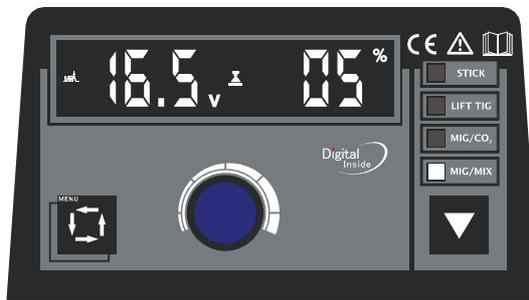

Fig. 5 Fine adjustment of preset range of voltage under MIG mode
- c) Press the **【Menu button】** for the 1st time, the **【Main display】** shows the fine adjusting range of preset welding voltage. Turn the **【Data adjusting knob】** to set the range from -20% to +20% as Fig.5.